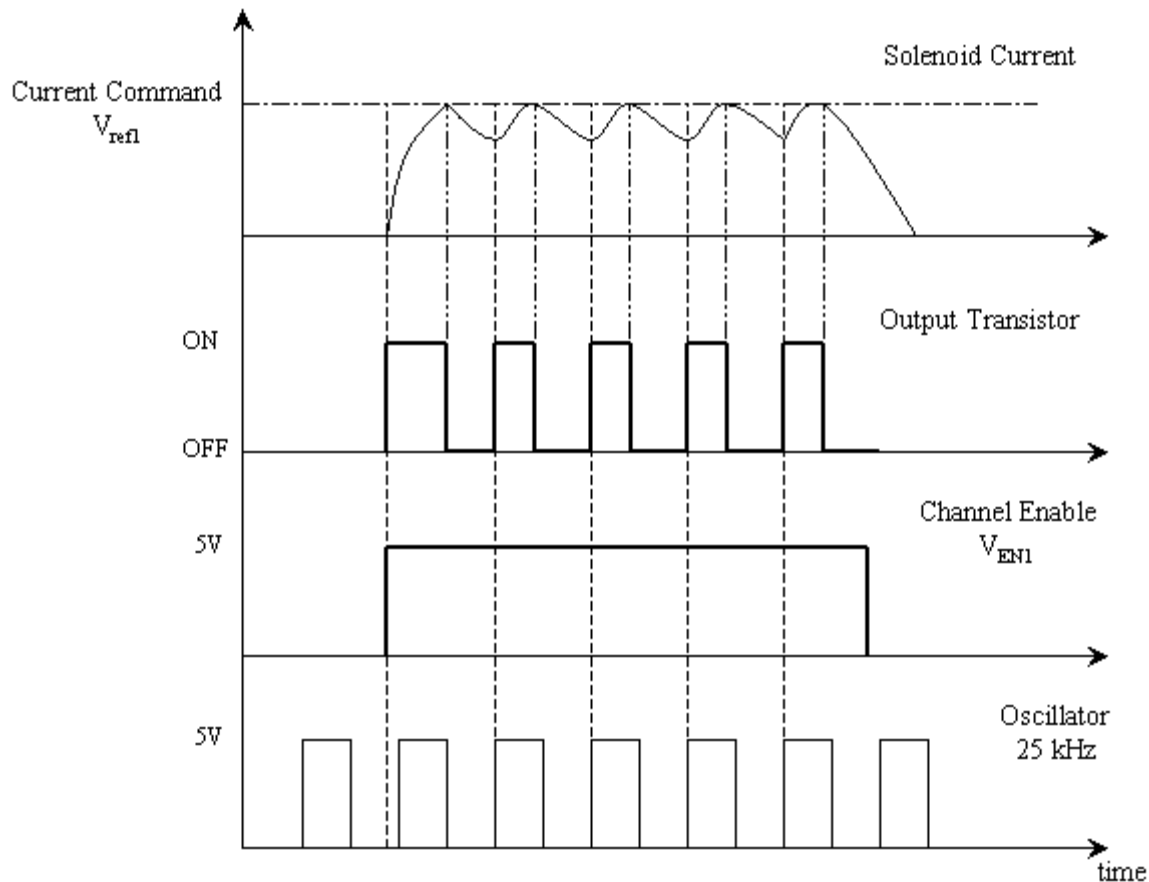

Fig.2 Operation of L295 Driver
The Driver block consists of ST Microelectronics solenoid driver chip L295 and associated circuitry. It has two independent driver channels and is controlled by three digital inputs (chip enable (EN), driver#1 enable (V_{EN1}) and driver#2 enable (V_{EN2})) and two analog inputs (current commands to program the solenoid currents, V_{ref1} and V_{ref2}). When driver#1 is activated by low level on EN input and high on V_{EN1} , the output transistors of the driver circuit switch ON and current rises through solenoid#1 (Refer to Fig.2). A current sense circuit within the driver chip senses the current through the solenoid. When the solenoid current equals the current command reference V_{ref1} , the output transistors are switched OFF and the current in the solenoid starts to decay. An internal oscillator fixed at 25 kHz, turns ON the output transistors at its next clock pulse and the current in the solenoid rises again. When the solenoid current reaches V_{ref1} value, the output transistors are again switched OFF. This process is repeated, regulating the solenoid current until V_{EN1} goes low. The operation of driver#2 is same as above.